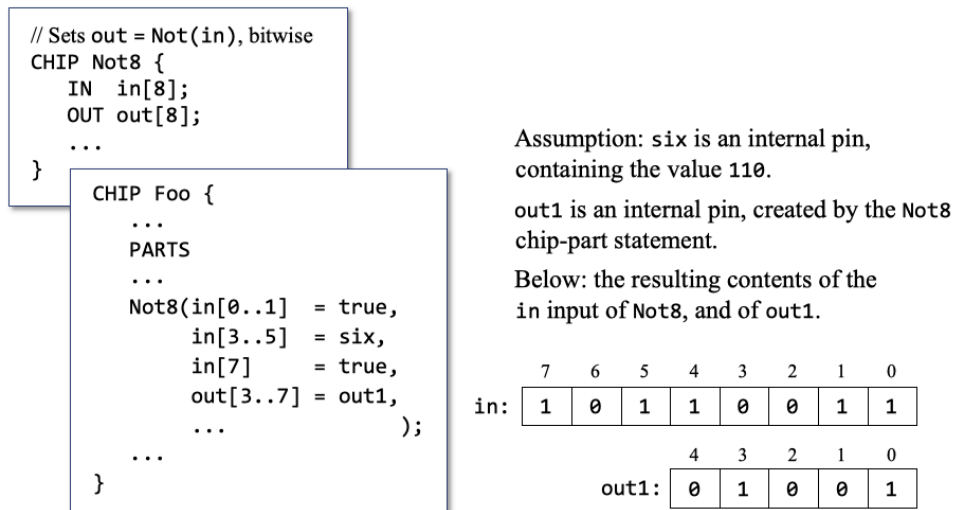

Figure A2.2: Busses in action (example).
This definition sets x to the value 11000111. Note that unaffected bits are set by default to false (0). Figure A2.2 gives another example.